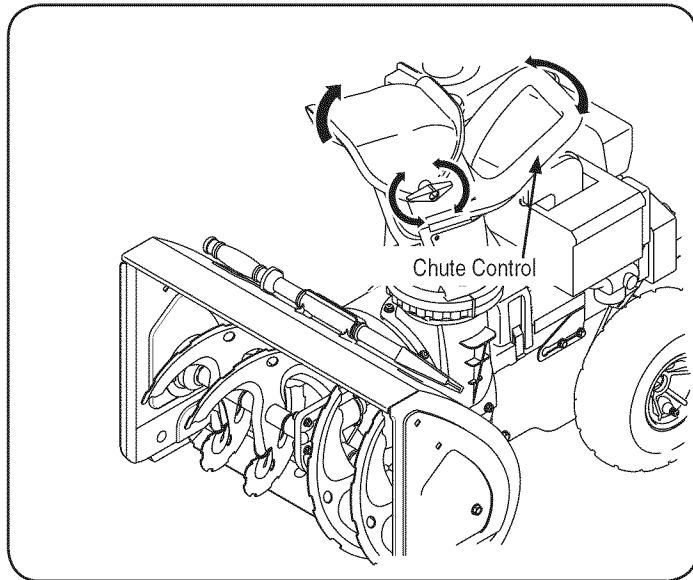

Figure 8
2. Tighten the wing knob on the upper chute making sure the carriage bolt is correctly positioned. Refer to Figure 8.